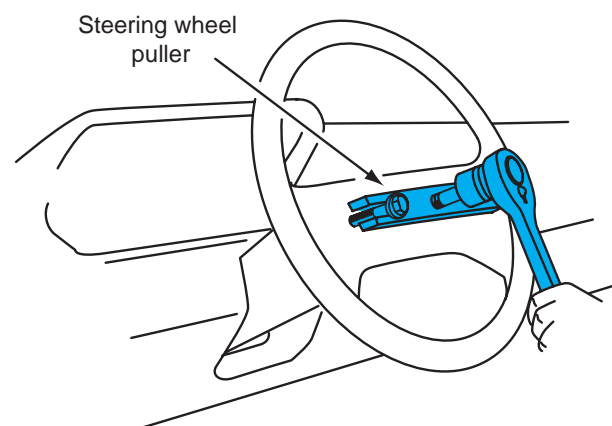

Figure 13-31 Removing the steering wheel.
3. Set the steering wheel so the front wheels are straight ahead, and remove the steering wheel retaining nut. Use a steering wheel puller to remove the steering wheel (Figure 13-31).